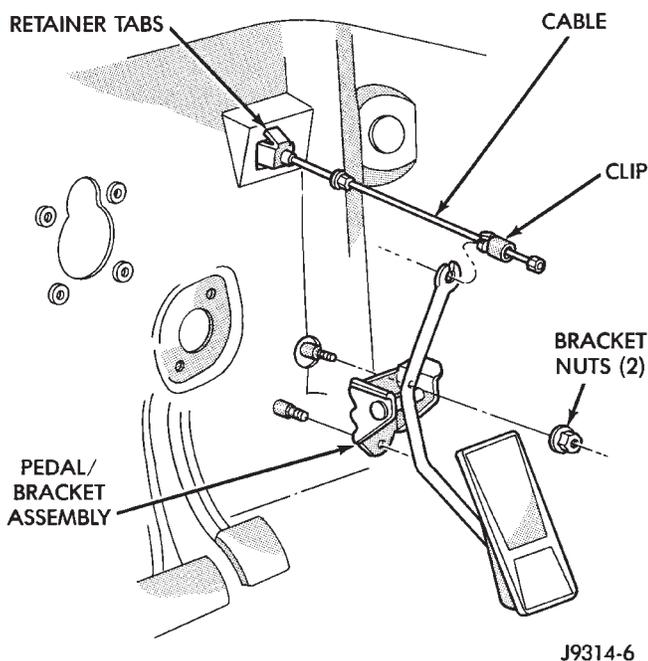

Fig. 40 Accelerator Pedal Mounting
The accelerator pedal is connected to the throttle body linkage by the throttle cable. The cable is protected by a plastic sheathing and is connected to the throttle body linkage by a ball socket. It is connected to the accelerator pedal arm by a plastic retainer (clip) (Fig. 40). This retainer (clip) snaps into the top of the accelerator pedal arm. Retainer tabs (built into the cable sheathing) fasten the cable to the dash panel.
(1) From inside the vehicle, hold up accelerator pedal. Remove plastic cable retainer (clip) and throttle cable core wire from upper end of pedal arm (Fig. 40). Plastic cable retainer (clip) snaps into pedal arm.
(2) Remove the cable core wire at pedal arm.
(3) From inside the vehicle, pinch both sides of the cable housing retainer tabs (Fig. 40) at the dash panel. Remove cable housing from dash panel and pull into the engine compartment.